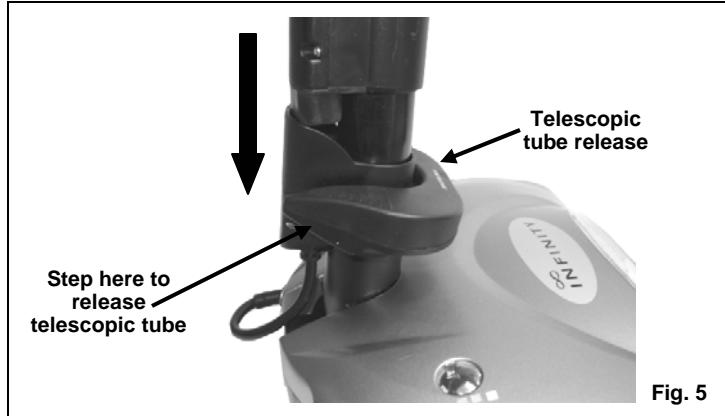

Fig. 5
1. To attach the telescopic tube to the power nozzle, insert the telescopic tube into the power nozzle. (Fig. 5)
4. To remove the telescopic tube from the power nozzle, step on the telescopic release and pull the tube out. (Fig. 5)